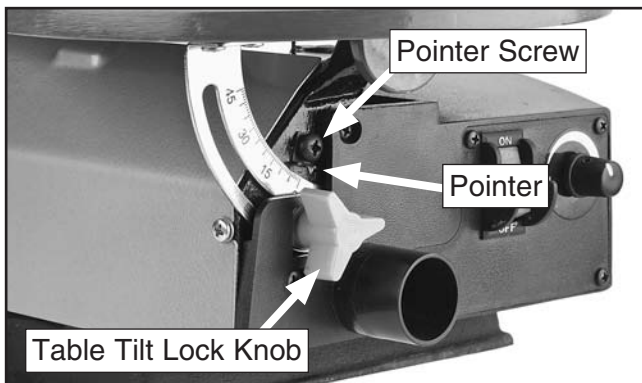

Figure 33. Table tilt lock knob.
3. Loosen the table tilt lock knob (**Figure 33**).